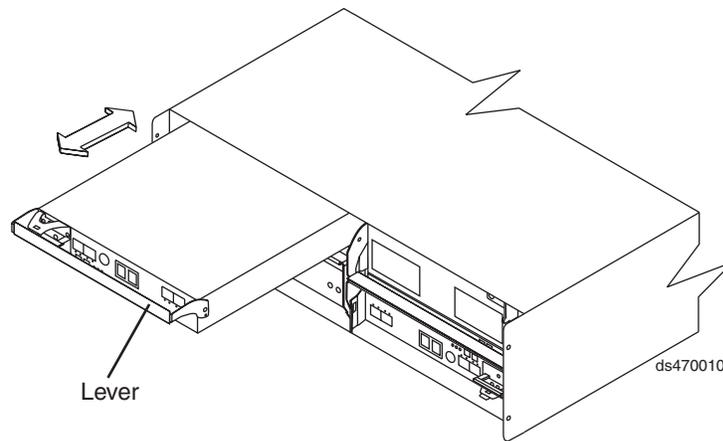

Figure 85. Removing a controller from the DS4700
9. Slowly pull the lever away from the chassis to remove the controller from the bay. Use two hands when releasing the controller levers. Figure 85 shows the controller sliding from the storage subsystem chassis.